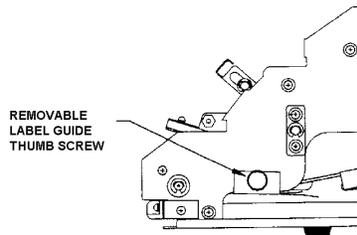

Figure 6-6 Lower Label Guide
- Remove the white plastic headed, knurled thumb screw that retains the label guides. Refer to Figure 6-6.